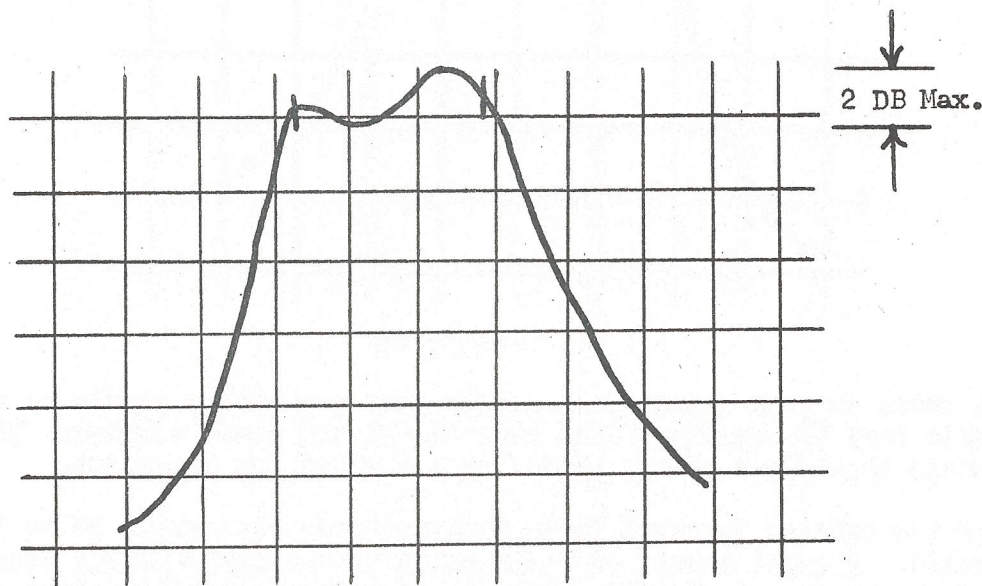

Figure 9.
10. Adjust input trimmer capacitor (that one nearest the input jack) to give maximum meter indication and adjust the output trimmer capacitor to give a curve shape like Figure 9. Some re-adjustment of the output coil slug may be necessary following each output trimmer adjustment.
1. Curve of Figure 9 shall not have more than 2 DB difference from maximum to minimum points within the pass band between picture and sound carriers.